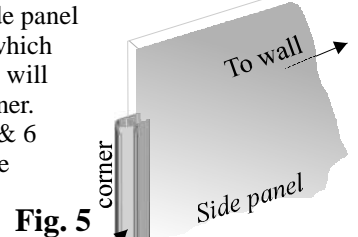

Fig. 5
4.1 On the large glass side panel there is a corner seal into which one of the door side panels will be inserted to form the corner. Using the detail in Figs. 5 & 6 determine the bottom of the large side panel and fit the bottom seal as shown.